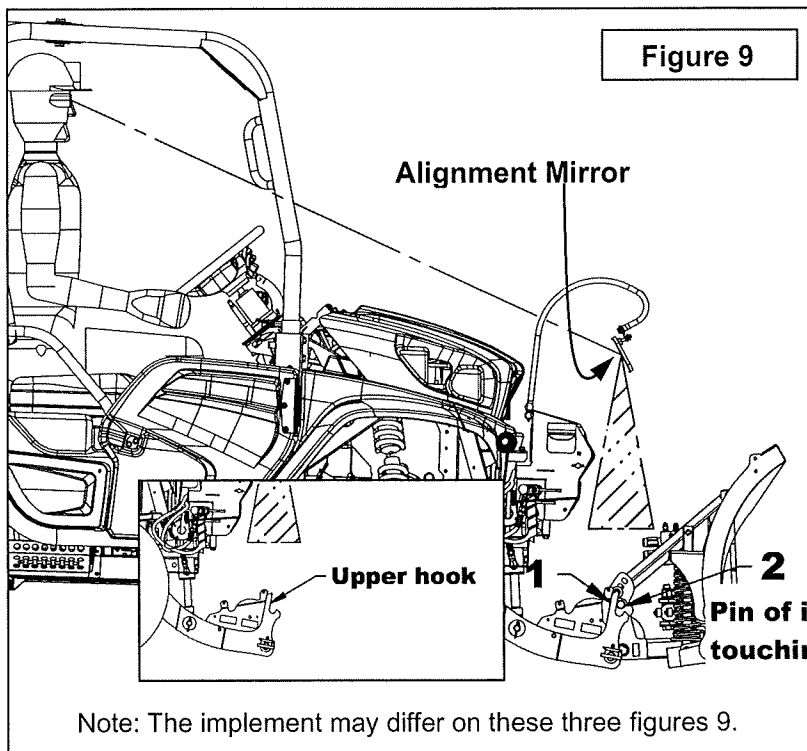

Figure 9
2. **Figure 9:** From the operator's seat look in the alignment mirror to verify if you can see the two upper hooks of the hitch. If you can't see these hooks in the alignment mirror, adjust the alignment mirror until you can see these hooks.
Note: The implement may differ on these three figures 9.